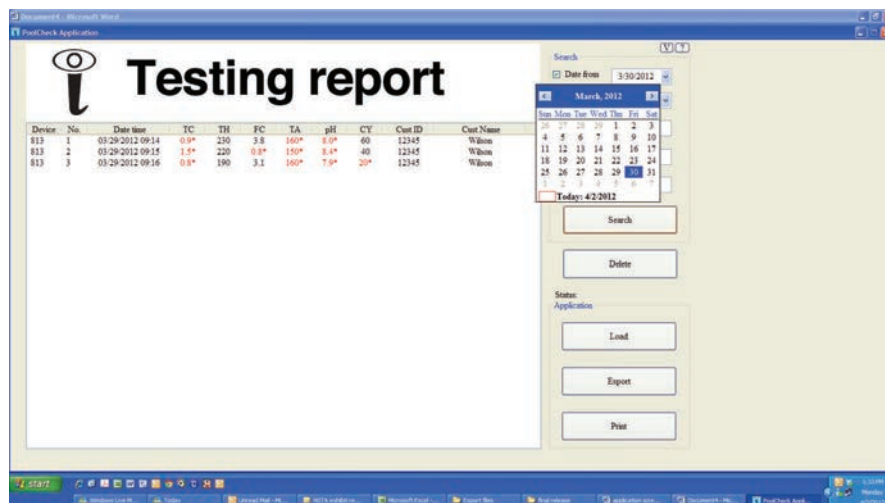

Figure 11 - Date search
3. To display all the data, click the box next to “Date from” to deselect the box. Press “Search”. All data will again be displayed (Fig. 11 & 12).